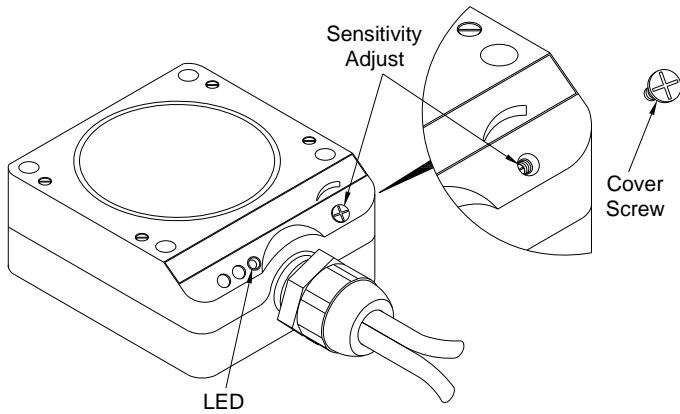

Figure 37
- b) Remove the sensitivity adjustment pot cover screw (**Figure 37**).